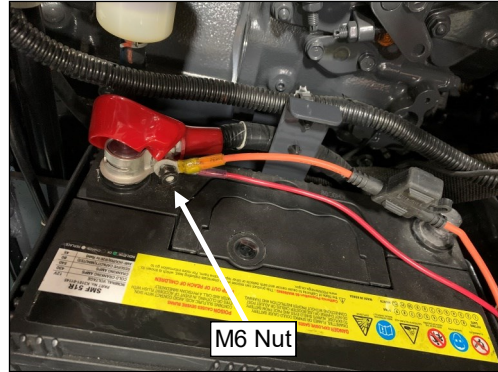

Fig. 7.3 (Attach Red Wires to Battery)
7.3 See fig. 7.3. Install the ring terminals on the red wires onto the stud on the positive battery clamp (outboard of the existing battery clamp nut) and secure with the following hardware.